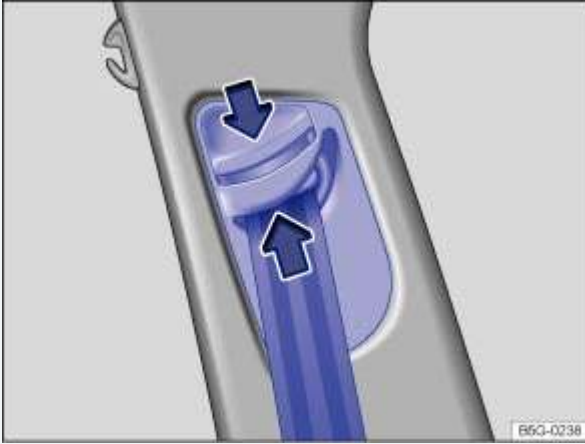

Fig. 66 Next to the front seats: Safety belt height adjuster.
- Pinch the safety belt attachment together as indicated by the arrows and hold ⇒ *Fig. 66*.